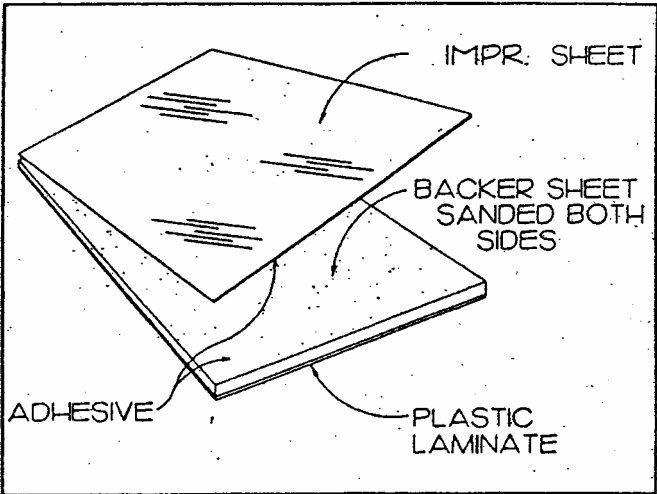

Figure 9
- 3. Adhere the Imagior face panel to the substrate. See Figure 9.